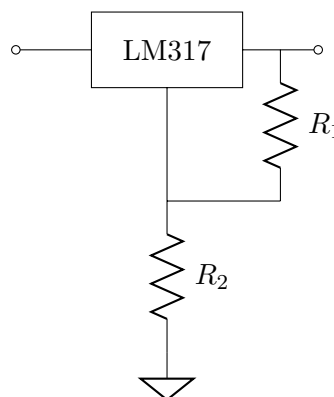

Figure 1: LM317 linear regulator circuit.
- b) For the circuit of Fig. 1, with sing an input voltage of 9V and $R_1=510\ \Omega$, what's the value of R_2 such that the output voltage is 5 V. What is the efficiency of the regulator in this case?